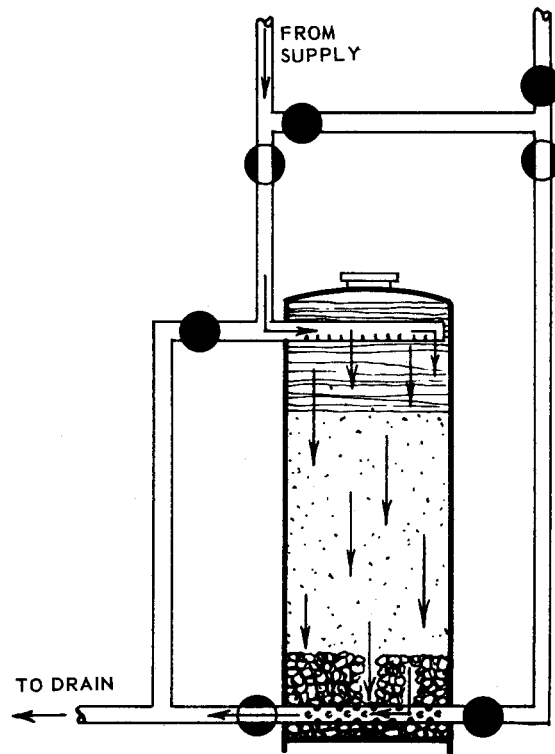
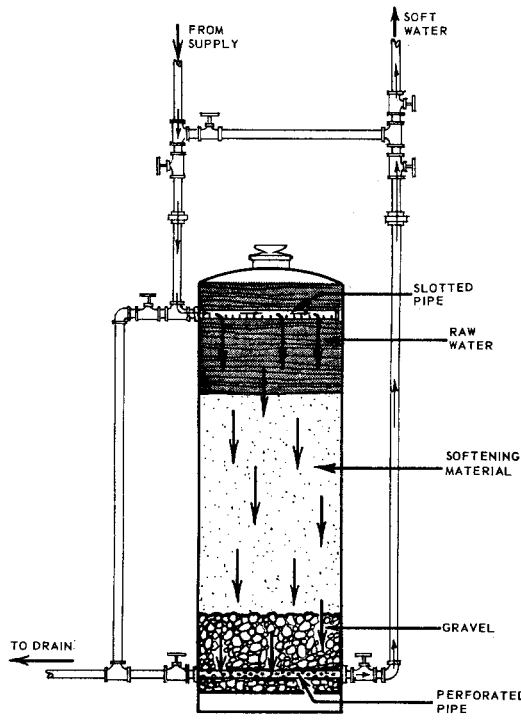

Fig. 3 RINSE
Fig. 4 SERVICE
3. RINSING (Fig. 3) The ion exchange material is rinsed and the calcium chloride (CaCl_2) and any unused salt go down the drain. After rinsing, the softener is ready for operation. (Fig. 4)